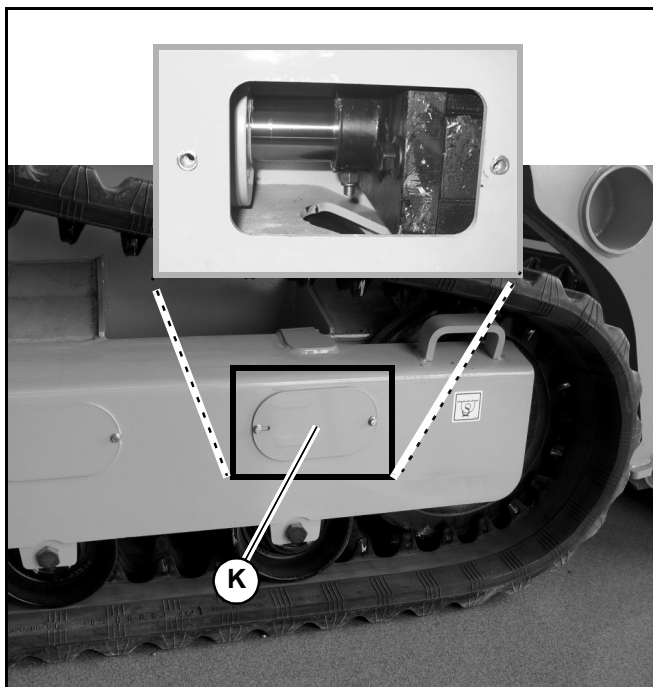

Fig. 109 – Tension Cylinder Stop
16. Once the track tension cylinder has returned to the operating (extended) position, re-install cylinder stop (K, Fig. 109).